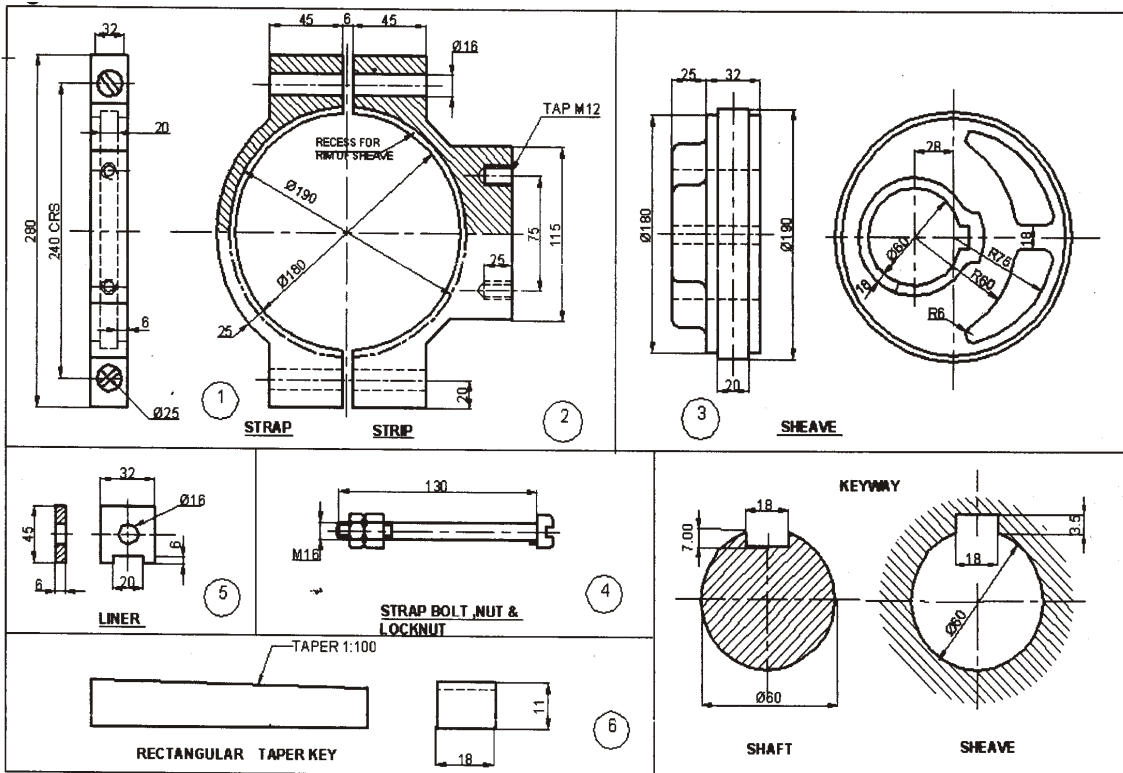

Fig. 2 : Eccentric Parts
- 6.** Assemble the parts of eccentric shown in Fig. 2 (Page 4) and draw the following views : 25+15=40